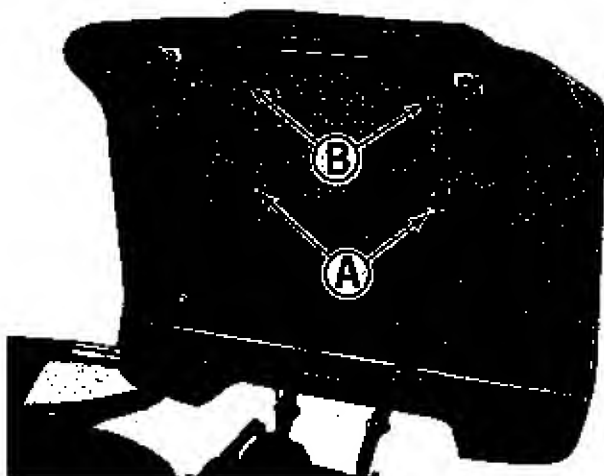
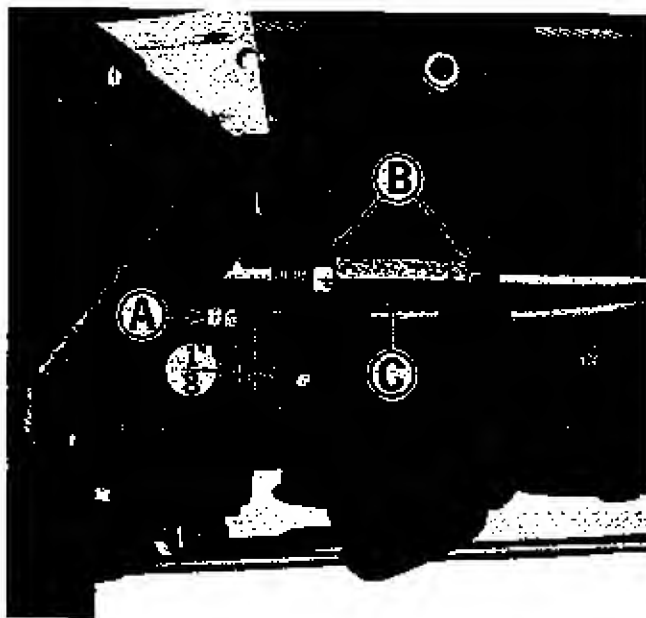
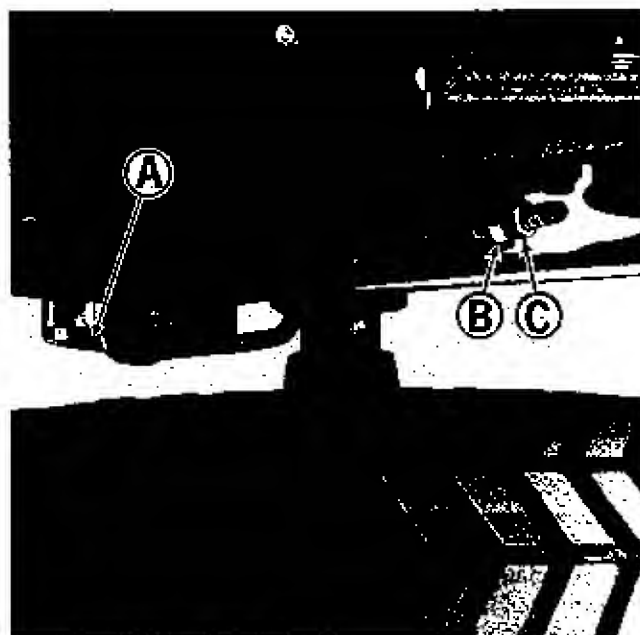

Figure 10. Seat deck raised.
Figure 11. Clutch free travel and hydrostatic transmission neutral adjustment.
Figure 12. Brake adjustment near right rear wheel.
locks out raise the seat deck as shown in figure 10. Raising the seat deck in this manner will expose many of the transmission adjustment and maintenance areas.
See figure 10. The tractor seat is properly adjusted when the operator can comfortably operate the clutch and brake pedal while sitting back in the seat. The seat can be adjusted forward or back in any of four positions. If adjustment is required, proceed as follows:
1. See figure 10. Position the seat deck as shown by following the instructions under Raising the Seat Deck on page 10.
2. Remove the two cap screws and lock washers at (A).
3. Remove the two nuts and lock washers at (B).
See figure 11. The clutch free travel is correct when there is 1/8" between the nuts (A) and the rod guide when the clutch brake pedal is released and pulled rearward as far as
1. Raise the seat deck as shown in figure 10, by following the instructions under Raising the Seat Deck on page 10.
2. Using two wrenches hold the forward nut at (A) stationary with one wrench while turning the rearward nut counter-clockwise slightly with the other to separate them.
4. Turn the forward nut at (A) as necessary so that the distance between it and the rod guide is 1/8" as shown in figure 11.
5. Using two wrenches hold the forward nut at (A) stationary while turning the rear one clockwise to tighten the two nuts together securely.
3. See figure 11. Loosen the two locking nuts (B) on either end of turnbuckle (C).
Use an open end wrench to rotate the turnbuckle (Figure 11, item C) until the brake drum (Figure 12, item A) does not rotate. When the brake drum does not rotate when the engine is running at 1/3 full speed, the hydrostatic neutral adjustment is correct.
8. See figure 11. After allowing the belt and pulleys to stop turning, use two wrenches to tighten the locking nuts (B) against turnbuckle (C). Tighten the locking nuts (B) one at a time, while using the other wrench to hold turnbuckle (C) from rotating.
2. See figure 12. Use one open end wrench to hold nut (B) stationary, and another wrench to turn nut (C) counter-clockwise to loosen it slightly.
3. Turning nut (B) clockwise will give more braking action and turning it counter-clockwise will give less. The brake adjustment can best be made by using the trial and error method, and operating the tractor each time an adjustment has been made. The best adjustment can be made by turning nut (B) counter-clockwise until the foot pedal brake does not work. Then turning it clockwise, one turn at a time, until the tractor will stop satisfactorily when rolling backward. This is the correct adjustment. Further tightening may cause the brake to drag, or prevent proper clutch disengagement.
4. After you are satisfied that the adjustment is correct use one wrench to hold nut (B) stationary and another to turn nut (C) clockwise to tighten the nuts securely together.